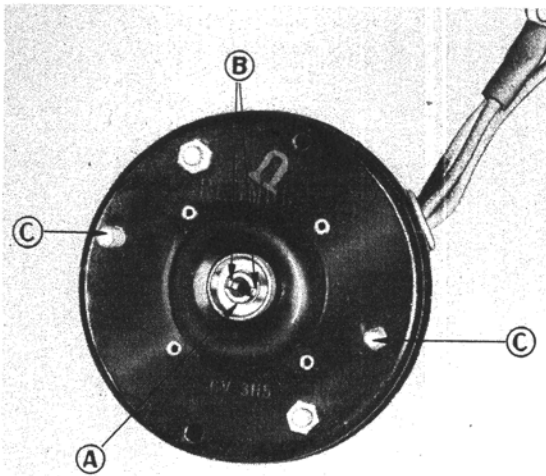

Figure 11 End View of Motor with Cup Installed on Drive Shaft
10. Place cup ("A", Figure 11) over motor drive shaft and fasten in place with small retaining ring.
11. Turn motor drive shaft until slots in shaft ("B", Figure 11) line up with mounting studs ("C", Figure 11).